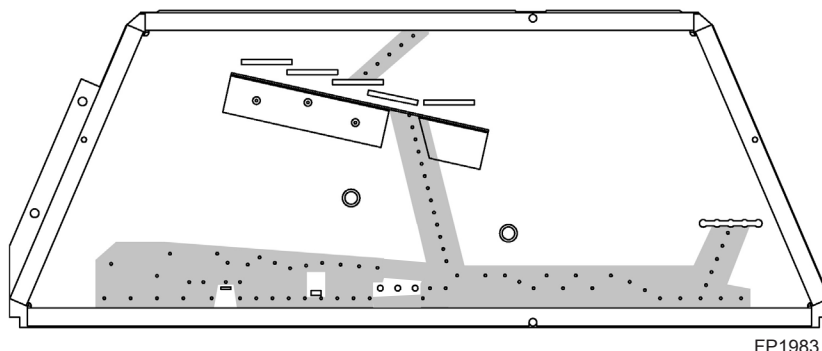

**Figure 64 -
1. Distribute one layer of rock wool to cover all round burner ports. Do not cover rectangular slots, located in front and rear. *Figure 64*